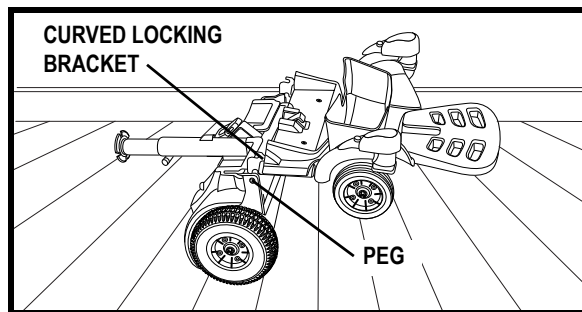

Figure 10. Align Frame Sections
2. While holding the front section parallel to the floor, align the curved locking brackets on the front section with the corresponding pegs on the rear section. See figure 10.